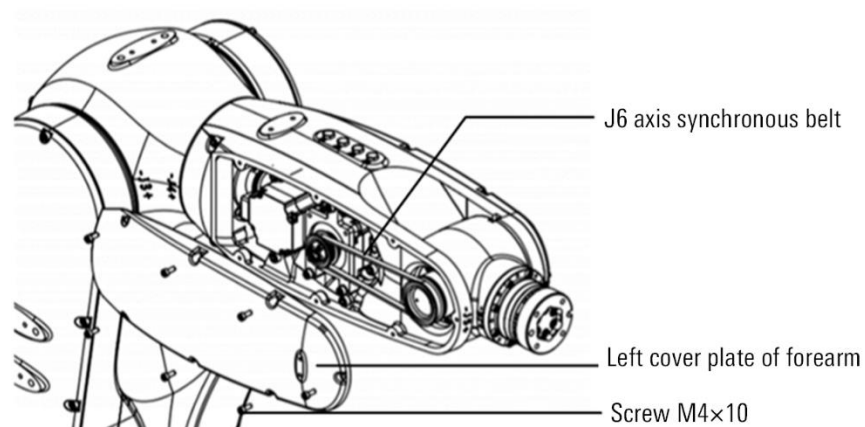

Figure 12-10 Remove the left cover plate of the upper arm
- Step3. Remove the manipulator forearm cover plate and seven M4 screws, as shown in Figure 12-10.